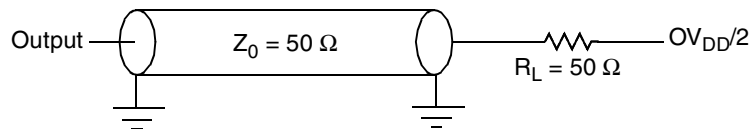

Figure 14. Local Bus C Test Load
Figure 14 provides the AC test load for the local bus.
- All outputs are measured from the midpoint voltage of the falling/rising edge of t_{TCLK} to the midpoint of the signal in question. The output timings are measured at the pins. All output timings assume a purely resistive 50-Ω load (see Figure 14). Time-of-flight delays must be added for trace lengths, vias, and connectors in the system.
- The symbols used for timing specifications follow the pattern of $t_{(first\ two\ letters\ of\ functional\ block)(signal)(state)(reference)(state)}$ for inputs and $t_{(first\ two\ letters\ of\ functional\ block)(reference)(state)(signal)(state)}$ for outputs. For example, $t_{JTDV KH}$ symbolizes JTAG device timing (JT) with respect to the time data input signals (D) reaching the valid state (V) relative to the $t_{JT G}$ clock reference (K) going to the high (H) state or setup time. Also, $t_{JTD X KH}$ symbolizes JTAG timing (JT) with respect to the time data input signals (D) went invalid (X) relative to the $t_{JT G}$ clock reference (K) going to the high (H) state. Note that, in general, the clock reference symbol representation is based on three letters representing the clock of a particular functional. For rise and fall times, the latter convention is used with the appropriate letter: R (rise) or F (fall).